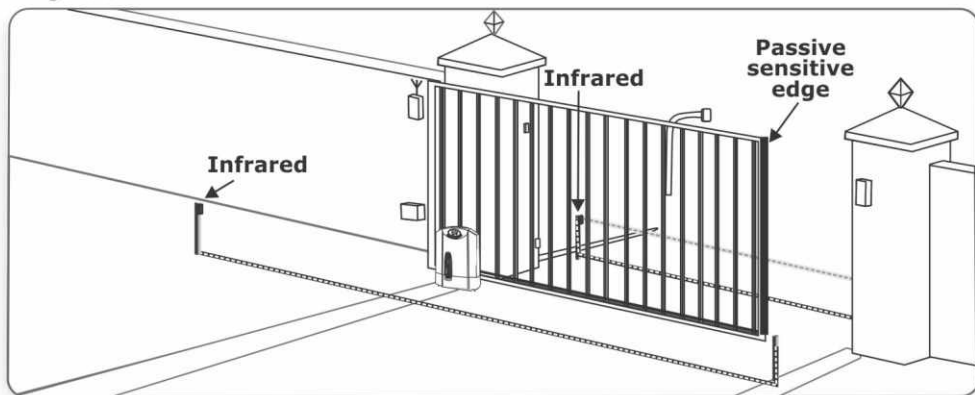

FIGURE 3. INFRARED BEAMS AND PASSIVE SENSITIVE EDGE
- Safety beams are installed on either side of the driveway, as shown in Figure 3
- Sensitive edges are typically installed on all shearing edges of the gate, as shown in Figure 3